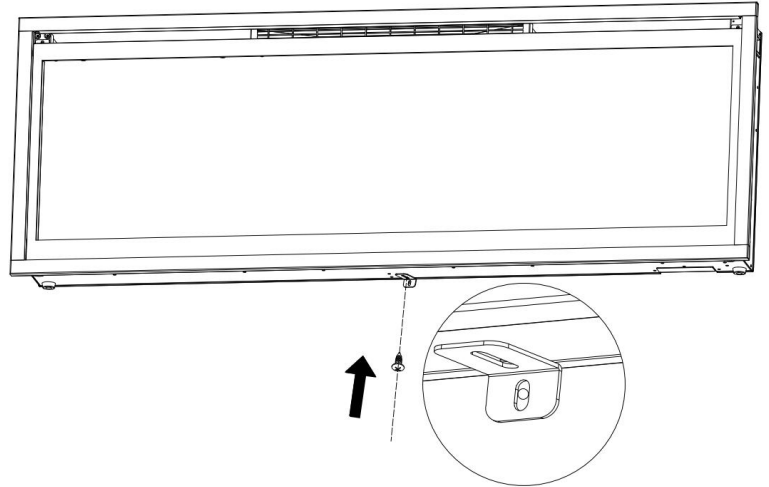

Fig 3-2
B. Using the screw previously removed, attached the L-bracket (supplied) to the bottom of the fireplace box. (Fig 3-2)